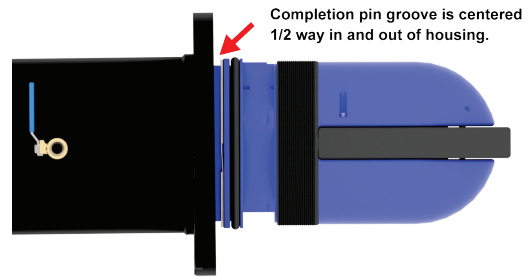

Figure C-9
C.15) Adjust the valve cartridge so the completion pin groove is centered half in and half out of the insertion housing flange (see Figure C-9).